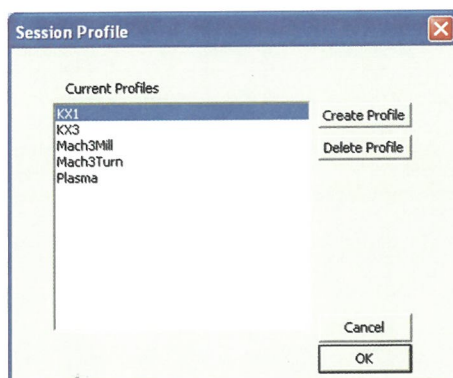

Fig. 3
2. Start Mach3: Open the **Mach3 Loader** program on the desktop and select either the KX1 or KX3 mill profile (to suit your machine), and click the OK button, Fig. 3. If you installed Mach3 from the CD or the smallcnssupport website, these profiles will be present by default.